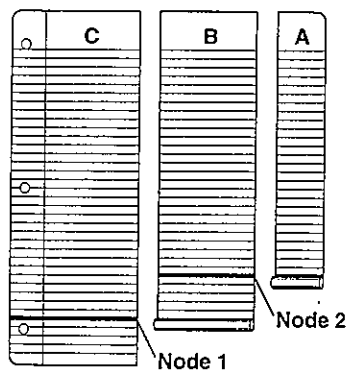

Figure 6.7d
Step 1: Mark leaf C in the center of the strip 5 lines from the bottom. Label this mark "node 1." Mark leaf B in the center of the strip at 5 lines from the bottom. Label this mark "node 2" (Figure 6.7d).